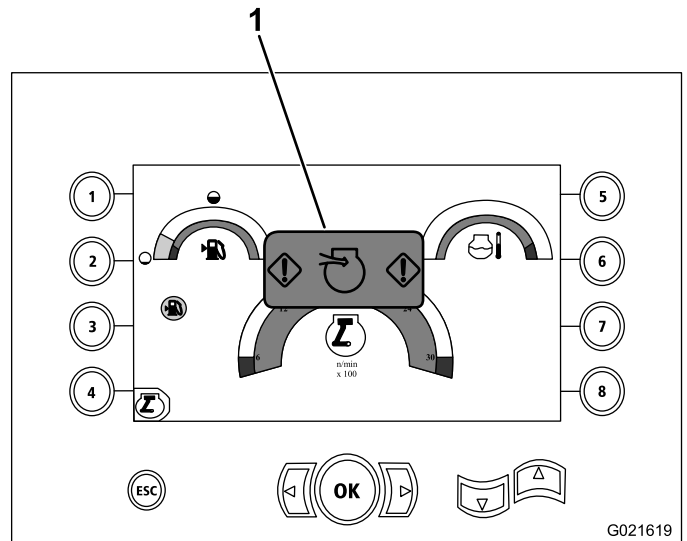

Figure 116
2. Check the restricted, air-cleaner indicator on the display screen as shown in Figure 116.